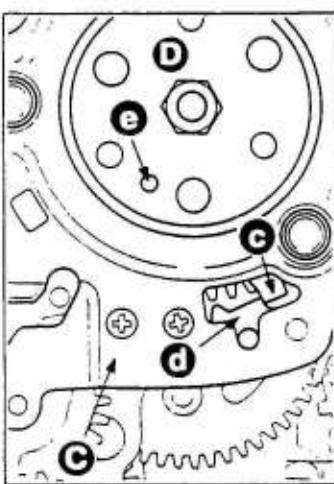

Fig. 4
4. Put the plate (C) in the notch of claw (D) of the wind-up substrate (C). (See Fig. 4.)